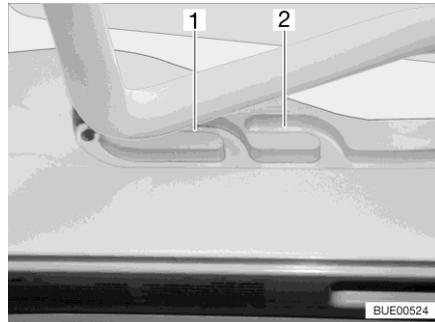
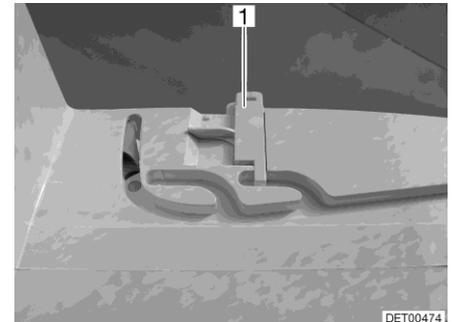

Fig. 113 Guide (ventilation position)
Fig. 114 Lock (ventilation position)
The Heki skylight can be put in two ventilation positions: Bad weather position (Fig. 113,1) and central position (Fig. 113,2). Depending on the model, the skylight can be locked in the central position with both left and right latches (Fig. 114,1) on the skylight frame.
- Push the bar slightly upwards and into the selected guide (Fig. 113,1 or 2) and lock if necessary.